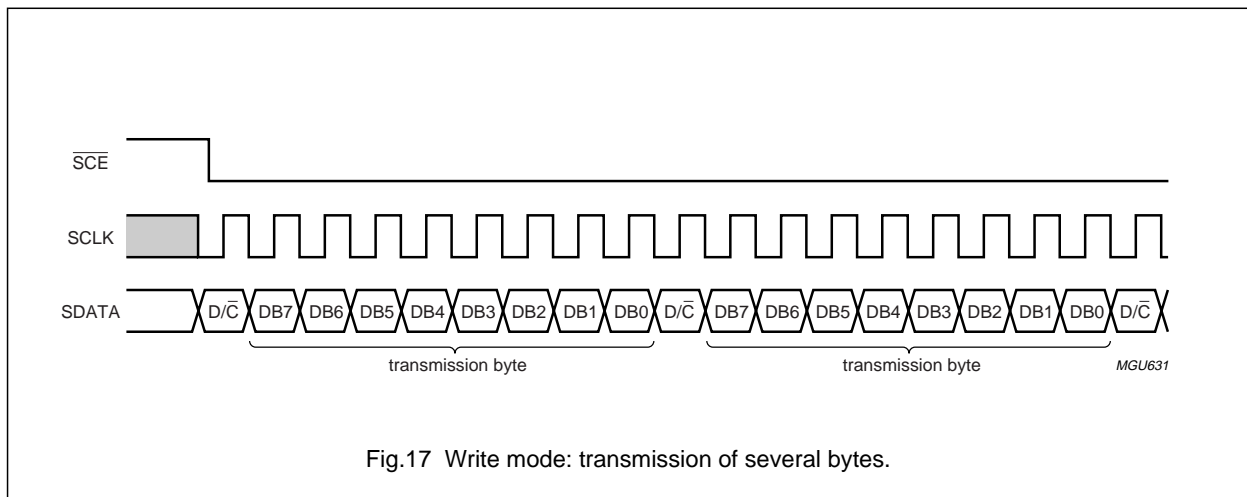

Fig.17 Write mode: transmission of several bytes.
- If  $\overline{SCE}$  stays LOW after the last bit of a command/data byte, the serial interface is ready for the  $D/\overline{C}$  bit of the next byte at the next rising edge of SCLK (see Fig.17)